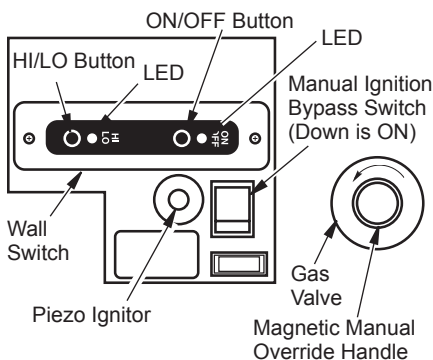

Figure 39 - Control Locations
2. Set manual ignition bypass switch on control panel to ON position (manual ignition position). See Figure 39, page 23.
- Place the magnetic manual override handle, provided with this unit, on the end of the gas valve stem (see Figure 39).
- While holding the valve handle in the PILOT position, press and release piezo ignitor button (see Figure 39). This will light the pilot. If needed, keep pressing ignitor button until pilot lights.